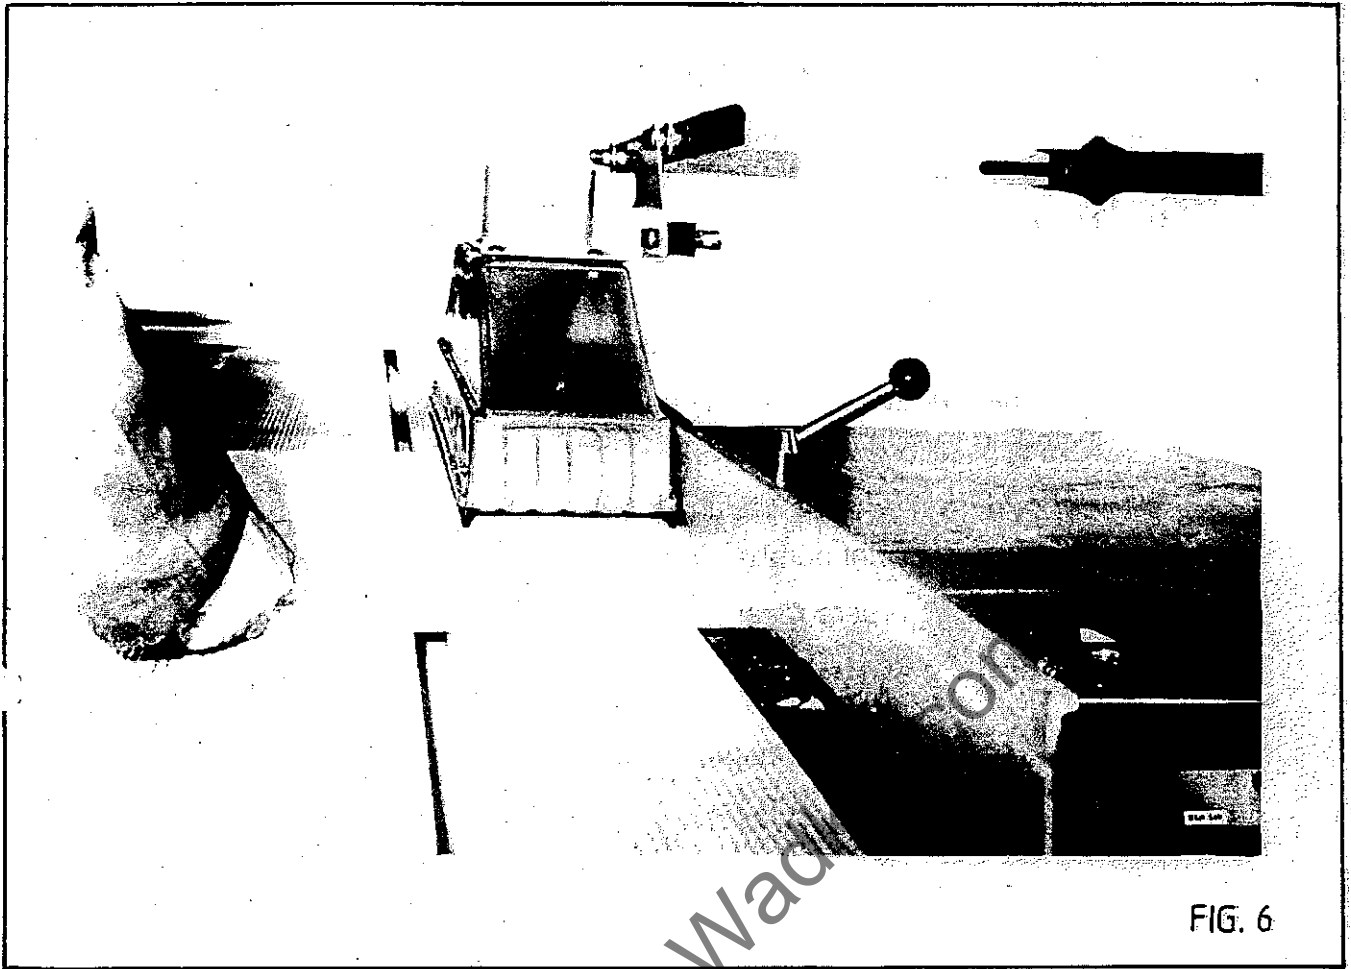

FIG. 6
- 2) The crown guard should be adjusted to right hand side of saw when using crosscut fence FIG.5 and to left hand side when using rip fence FIG.6.